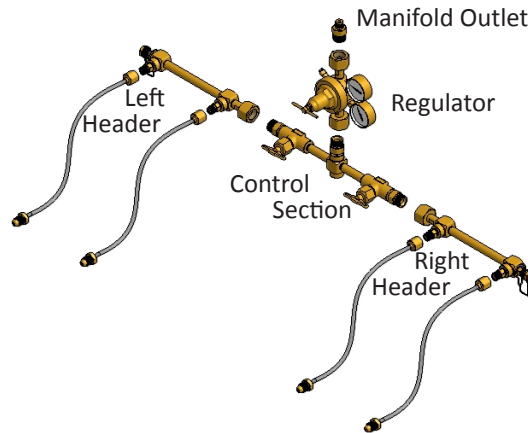

Figure 3
1. Assemble the regulator to the control section (Figure 3).
2. Assemble the headers to the control section inlets as shown in Figure 3.